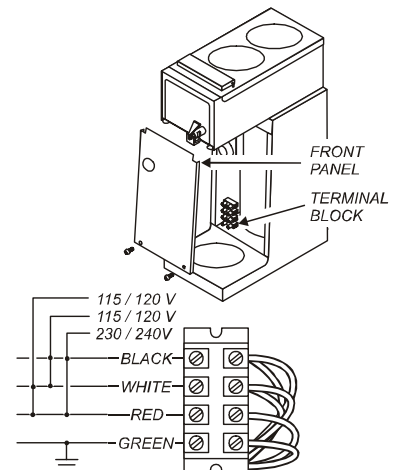

Fig. 3 115/240 Volt Terminal Block
**Model 1016** must be wired by an electrician, and requires a 115/240V 20A circuit (50/60 Hz, 2 hot legs / 1 neutral leg, plus ground). Remove front panel to gain access to terminal block. Green terminal must be connected to a suitable building ground. Circuit must be capable of 2100 Watts. See figure 3 at right.